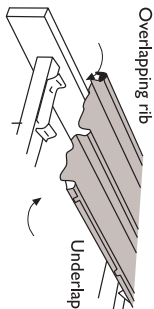

Figure 2.
- 1. Locate the first sheet over the fixed clips. (see fig 2)